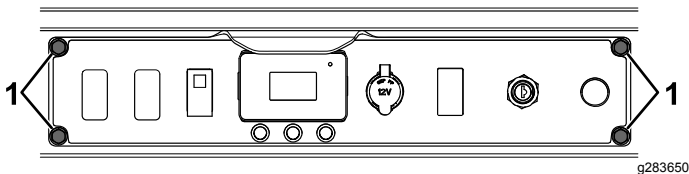

Figure 7
1. Remove the 4 thread-cutting bolts (5/16 x 3/4 inch) securing the console plate to the machine (Figure 7).
- 11. Secure the console plate to the machine using the 4 thread-cutting bolts removed previously (Figure 7).